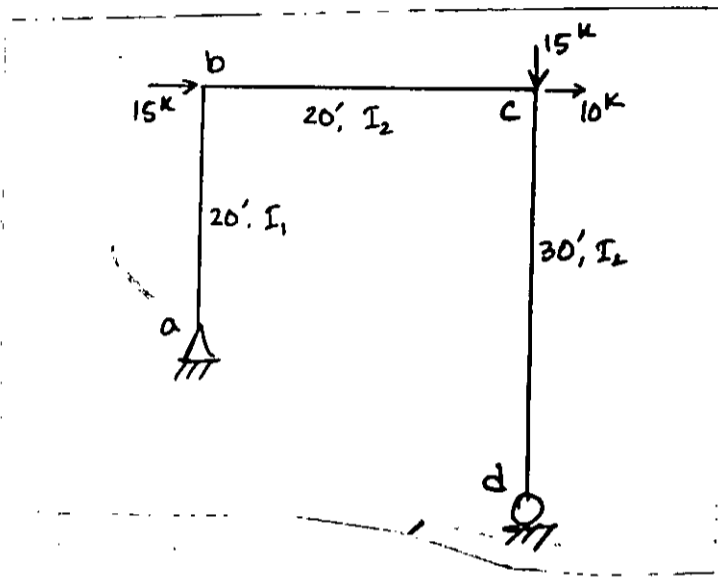

Fig. 9
5. (a) Using the method of virtual work, find rotation of join b of the frame shown in Fig. 9. Consider the deflection of each member of the frame is caused by the bending strain energy. Given that $E = 29000 \text{ ksi}$, $I_1 = 600 \text{ in}^4$, $I_2 = 1.5I_1$. E is same for all sections. (23 $\frac{2}{3}$)